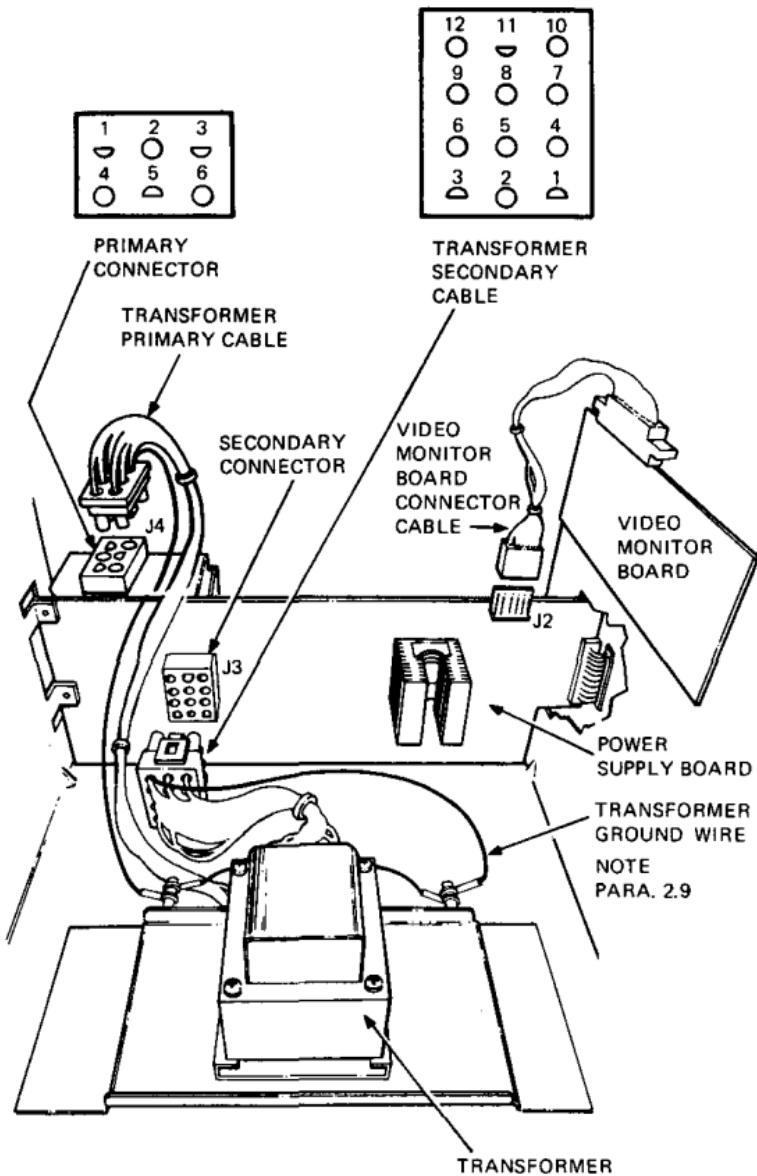

Figure 2-11 Power Supply Board Connections
3. Disconnect the transformer primary connector cable from the top of the power supply receptacle box (Figure 2-11).
4. Disconnect the transformer secondary connector cable from the power supply board (Figure 2-11).
5. Disconnect the video monitor board connector cable from the power supply board (Figure 2-11).
2. Remove the nut holding the chassis ground strap and the transformer ground wire to the chassis (Figure 2-11).